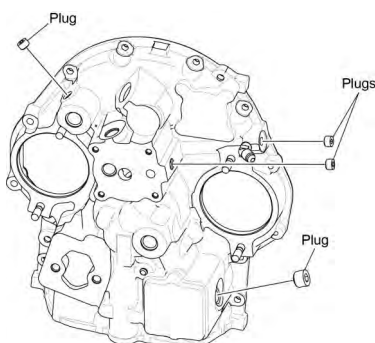

Figure 13
- (1) Remove the threaded NPT plugs from the accessory housing, oil sump, and crankcase to facilitate cleaning (Figures 13, 14, and 15).